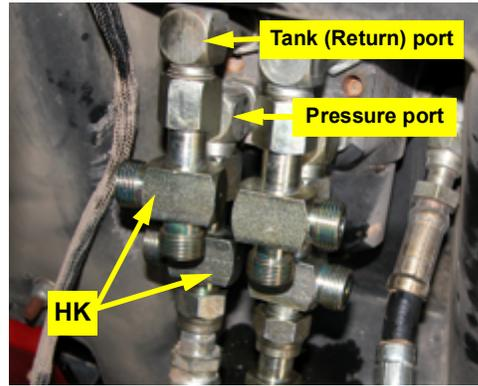

Figure 5: Installed run-tee fittings at orbital P and T ports
- b. Install run-tee fittings **HK** provided (Figure 5). Leave the run-tee fittings loose to allow for alignment when attaching hoses. Plastic caps placed on the open ends of the fittings will prevent excessive leakage prior to hose installation.